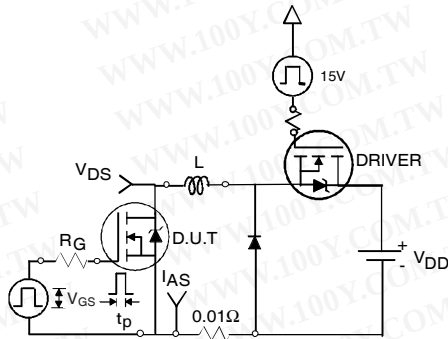

Fig 12a. Unclamped Inductive Test Circuit
- ③ $I_{SD} \leq 75A$, $di/dt \leq 340A/\mu s$, $V_{DD} \leq V_{(BR)DSS}$, $T_J \leq 175^\circ\text{C}$.
- ④ Pulse width $\leq 1.0ms$; duty cycle $\leq 2\%$.
- ⑤ $C_{oss \text{ eff.}}$ is a fixed capacitance that gives the same charging time as C_{oss} while V_{DS} is rising from 0 to 80% V_{DSS} .
- ⑥ Limited by T_{Jmax} , see Fig.12a, 12b, 15, 16 for typical repetitive avalanche performance.
- ⑦ This value determined from sample failure population. 100% tested to this value in production.
- ⑧ This is applied to D²Pak, when mounted on 1" square PCB (FR-4 or G-10 Material). For recommended footprint and soldering techniques refer to application note #AN-994.
- ⑨ R_θ is measured at T_J of approximately 90°C .
- ⑩ TO-220 device will have an R_{th} of 0.45°C/W .
3. Equation below based on circuit and waveforms shown in Figures 12a, 12b.